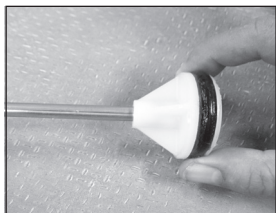

Figure 3
3. Inspect o-ring. If worn or damaged, remove and replace. Lubricate o-ring with petroleum jelly. (See Figure 3)